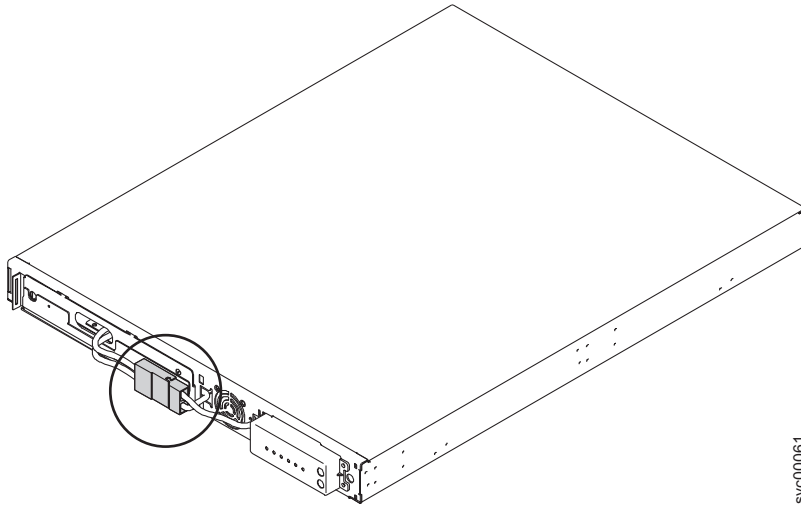

Figure 310. The 2145 UPS-1U internal-battery connector
6. Disconnect the internal battery connector, which is circled in Figure 310 on page 325.